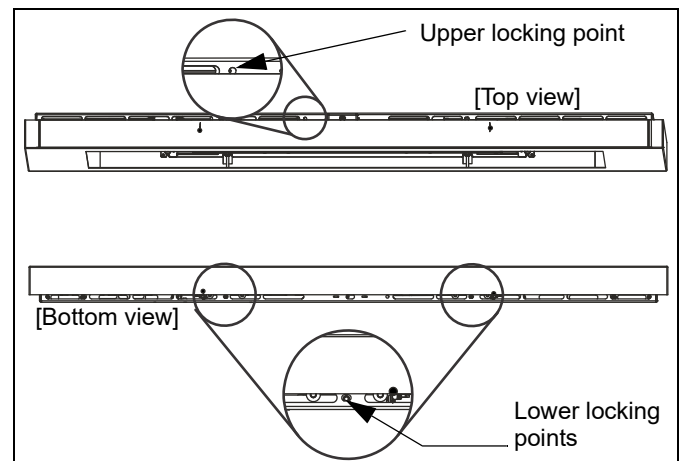

Figure 14
18. Add one 10-24 x 3/8" button head security screw (CB) in hole on top, **AND** two security screws in two holes on bottom to lock door. (See Figure 14)